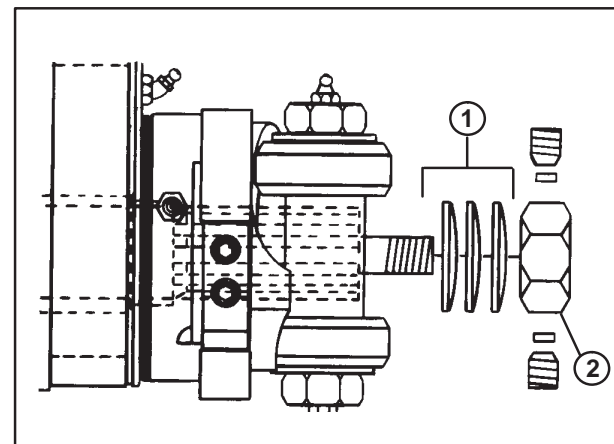

FIGURE 3
6. Install the three spring washers **1** (with convex side facing the adjusting nut) onto the shaft (Figure 3).